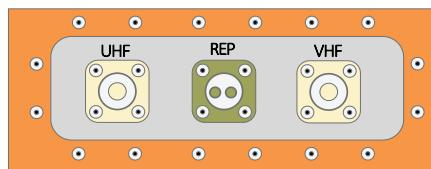

Figure 2:
- Before erecting the antenna mast, attach the other end of the **VHF** coax to the appropriate connector on the bulkhead mount on the back of the fiberglass box. (See Figure 2)